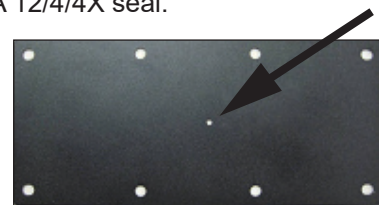

FIGURE 1
1. Refer to Figure 1. Drill Pilot Hole to recommended diameter provided by fitting manufacturer.